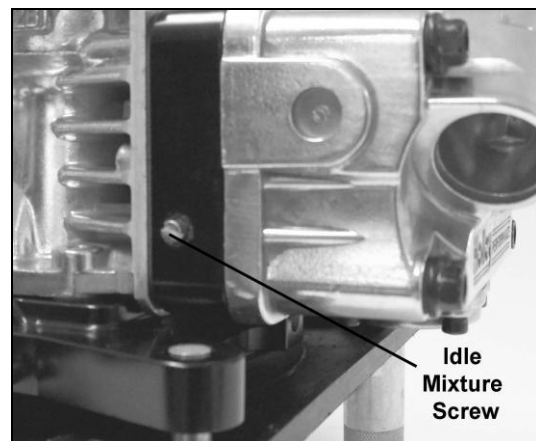

**Figure 9**
3. Now that the idle mixture is set, it may be necessary to go back and reset the idle speed using the curb idle speed screw, as shown in **Figure 9**.